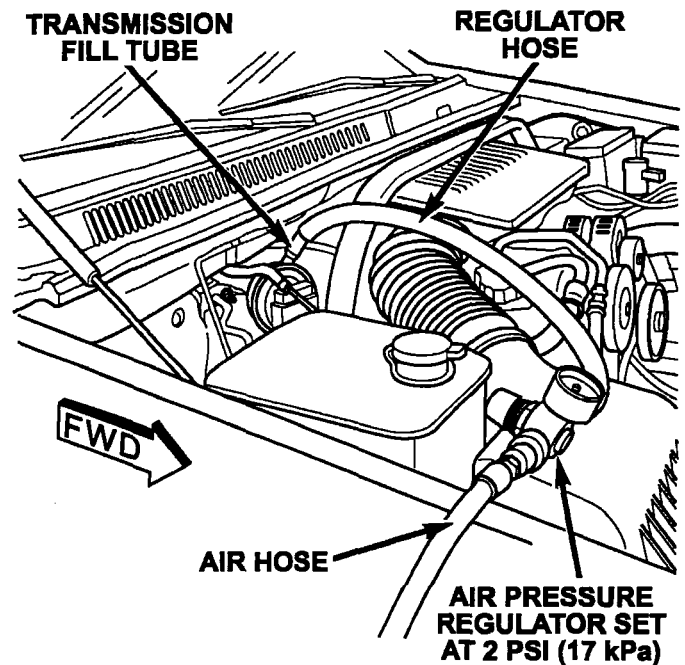

Figure 1
2. Connect the air pressure regulator hose to the transmission fill tube (Figure 1).
4. Connect shop air hose to the pressure regulator (Figure 1).